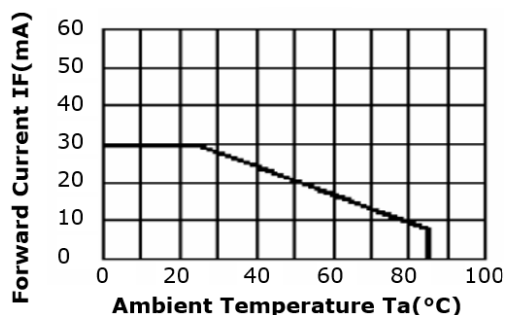

Figure 1 - Forward Current vs Ambient Temperature
4. The forward current versus ambient temperature characteristics shown in Figure 1 are specified per LED string.